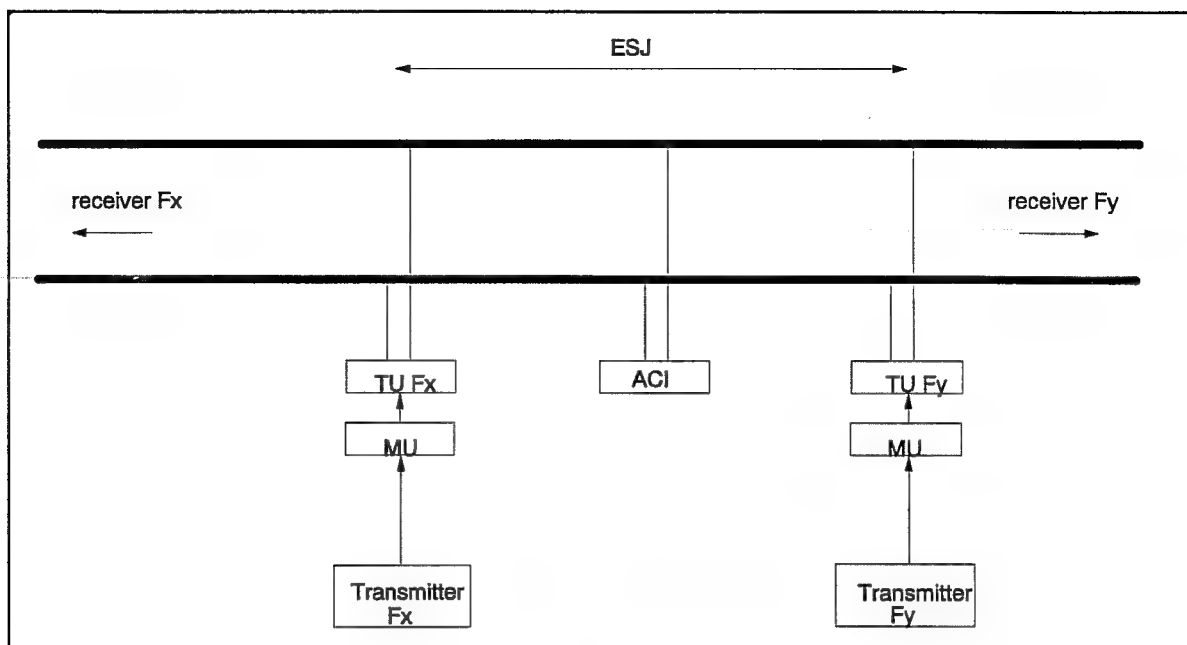

Figure 8 - config. transmitter/transmitter
- Using Two transmitters in the same ESJ is possible but no recommended (fig.8). Limited the transmitters power is required no to saturate the tuning unit with high current.